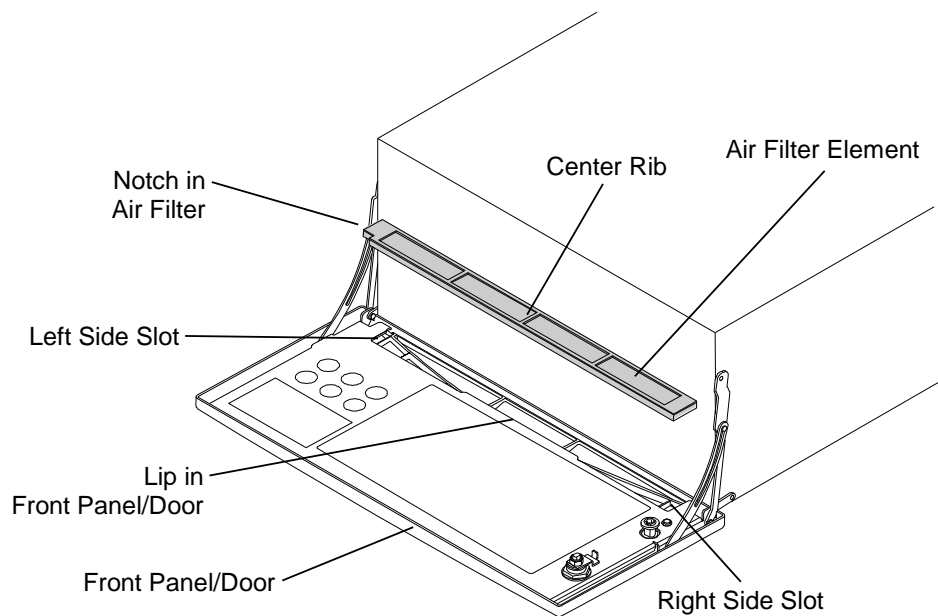

Figure 7-45 Air Filter with the Front Panel/Door Open
1. Visually inspect the Air Filter element at the bottom of the Front Panel/Door (Figure 7-45).